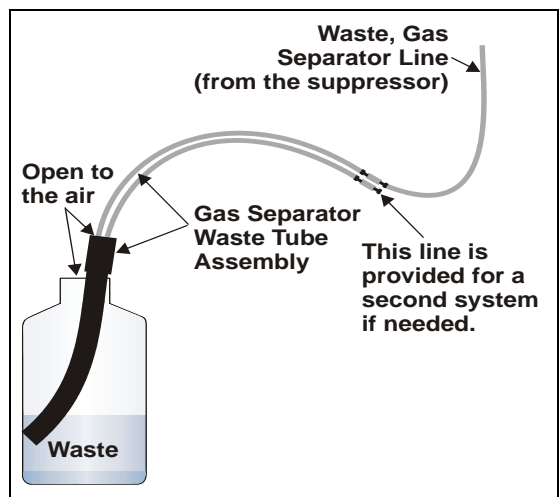

Figure B-24. Gas Separator Waste Tube Installation
2. Connect the **WASTE, GAS SEPARATOR** line from the suppressor to one of the 3-mm (1/8-in) ID white Teflon lines on the gas separator waste tube assembly (see Figure B-24).
DO NOT CAP THE WASTE CONTAINER: The ICS-2000, Atlas Electrolytic Suppressor, and Self-Regenerating Suppressor (SRS) use an electrolytic process that results in the production of small amounts of oxygen or hydrogen gas. To ensure that the gas is not trapped in a closed container and allowed to concentrate, install a 1.3-cm (0.52-in) ID black gas separator waste tube (P/N 045460) in an uncapped waste container. Connect the Waste, Gas Separator line to the waste tube (see Figure B-24).